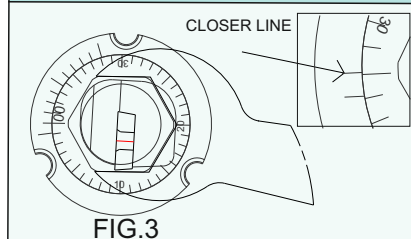

FIG.3
- check the line on the vernier scale which is very closer with line on the main scale as shown in FIG.3..